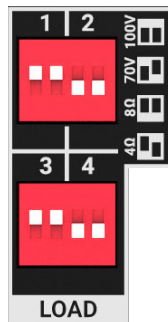

Fig. 9
- **Fig 9** - CLA404 Power Share selection arrow is set to CH 1 25W (70V) / CH 2 175W (70V) and CH 3 75W (70V) / CH 4 125W (70V)